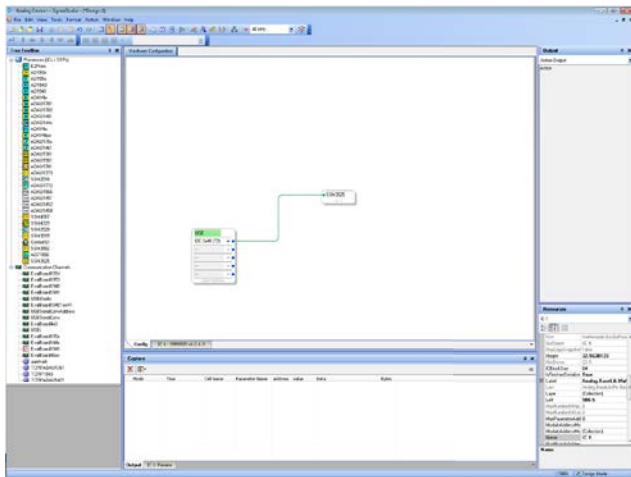

Figure 4. Hardware Configuration Tab
6. Connect the USBi to the **SSM3525** block on the **Hardware Configuration** schematic. See Figure 4.